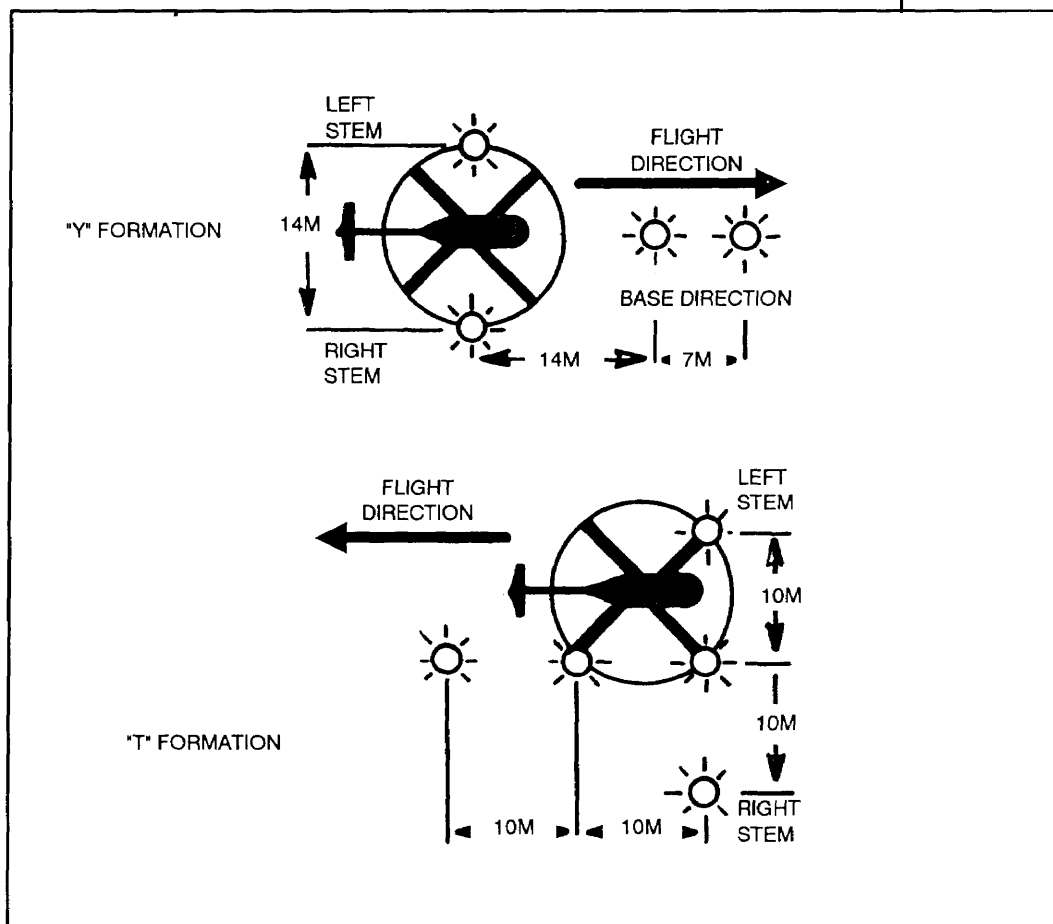

Figure I-2. The "Y" and "T" formation for single landing site.
a. During night operations, the landing point for the lead aircraft is normally marked by amber beacon lights. The landing point for the lead aircraft, if aircraft are in formation, is marked with either an inverted "Y" or a "T" (Figure I-2). The aircraft touches down or hovers on the midpoint of the legs of the "Y" and to the left of the stern of the "T".